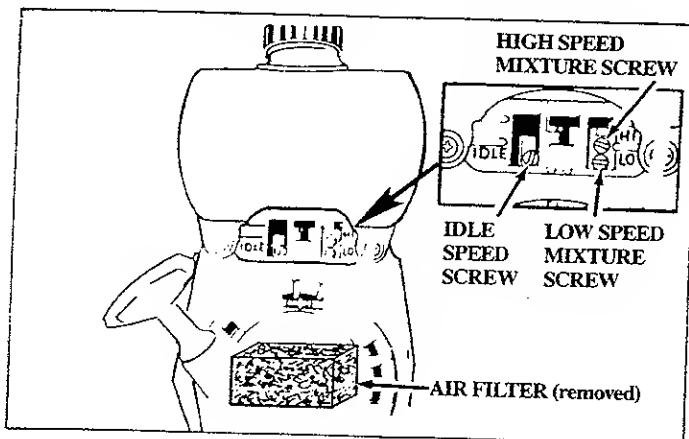

Figure 23
- b. Adjust Idle Speed Screw (Figure 23) until the engine continues to run without stalling and without the trimmer head moving.
- 2.) If the engine does not accelerate smoothly, turn the Low Speed Mixture Screw (Figure 23) counterclockwise  a small amount (no more than the width of the slot in the adjusting screw).
- b. Turn the Low Speed Mixture Screw (Figure 23) slowly clockwise  until the speed starts to drop. Note this position.
- c. Turn High Speed Mixture Screw (Figure 23) very slowly clockwise  until engine speed is reduced.
- a. Turn the Low Speed Mixture Screw and the High Speed Mixture Screw (Figure 23) clockwise  just until they stop. Do not turn the screws until they are tight as damage to the needle seats can occur.